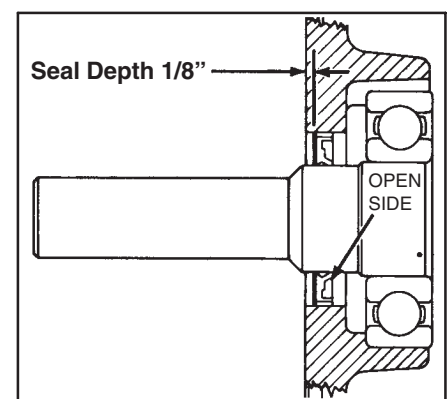

Fig. 59 Rear Seal
- e. Install rear seal to a depth of 1/8" from outer edge of bearing plate (Fig. 59).